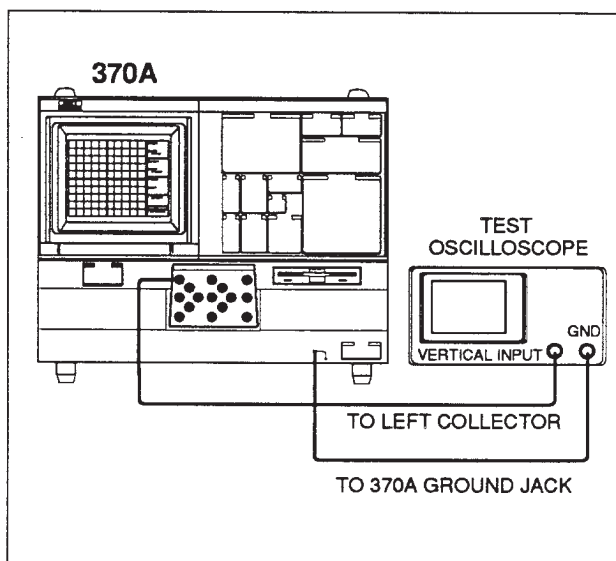

Figure 4-13. Examining for DC and LEAKAGE operation.
1. Connect the Test Oscilloscope as shown in Figure 4-13 and close the Protective Cover.